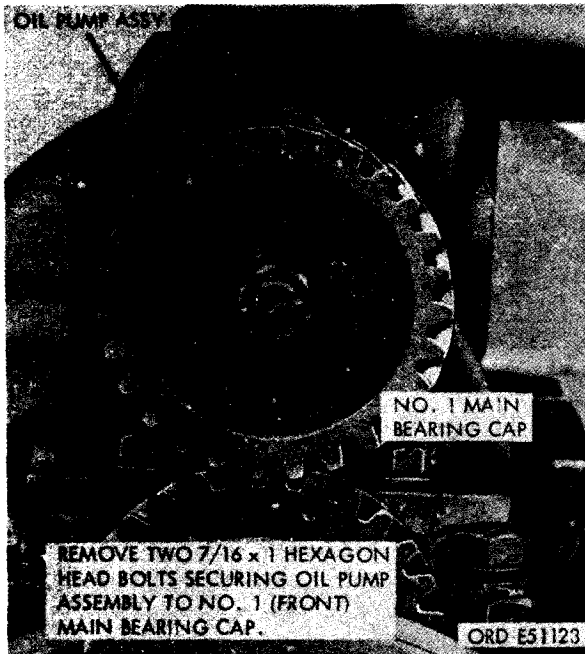

FIGURE 281. DISCONNECTING OR CONNECTING OIL PUMP ASSEMBLY AT FRONT MAIN BEARING CAP.
- (1) Refer to figure 281 and remove two hexagon head bolts securing oil pump assembly to front main bearing cap.